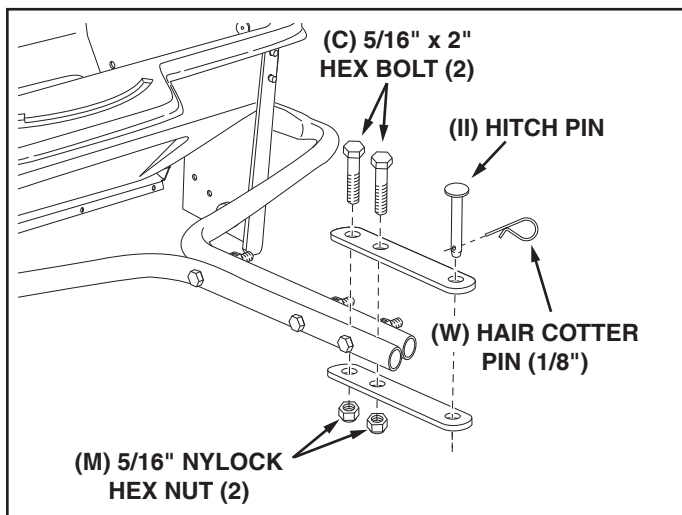

FIGURE 5
9. Assemble the hitch brackets to the hitch tubes using two 5/16" x 2" hex bolts and 5/16" nylock hex nuts. **Do not tighten.** See figure 5.
10. Assemble the hitch pin through the hitch brackets and secure with the hair cotter pin. See figure 5.